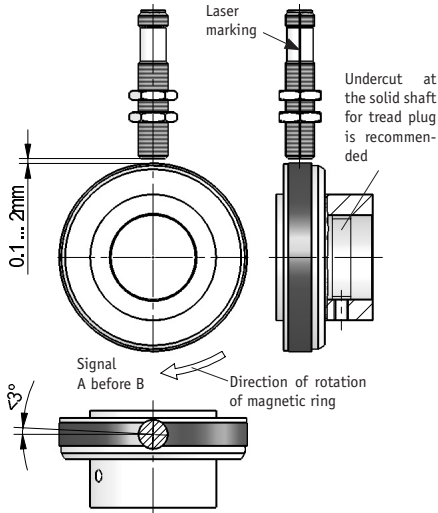

Fig.7: Definition of the counting direction with magnetic ring and assemblage sensor/magnetic ring, gap measure, tolerances
- Provide for a relief groove in the solid shaft (see fig.7).